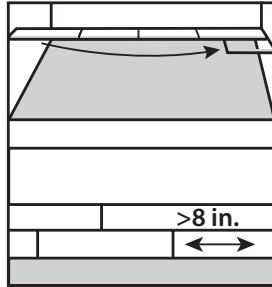

Figure 2
6. Begin the second row with the cut piece from the first row. If the cut piece is shorter than 8" (20 cm), do not use it. Instead, begin with a new board that is at least 8" in length and allow 81 between the end joints on the adjacent planks. (Figure 2)